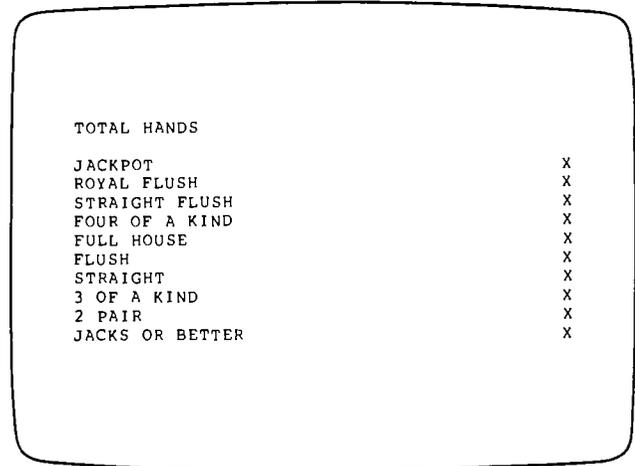

Figure 4-5
- 3) The third screen displays the type and total hands won data. See Figure 4-5.